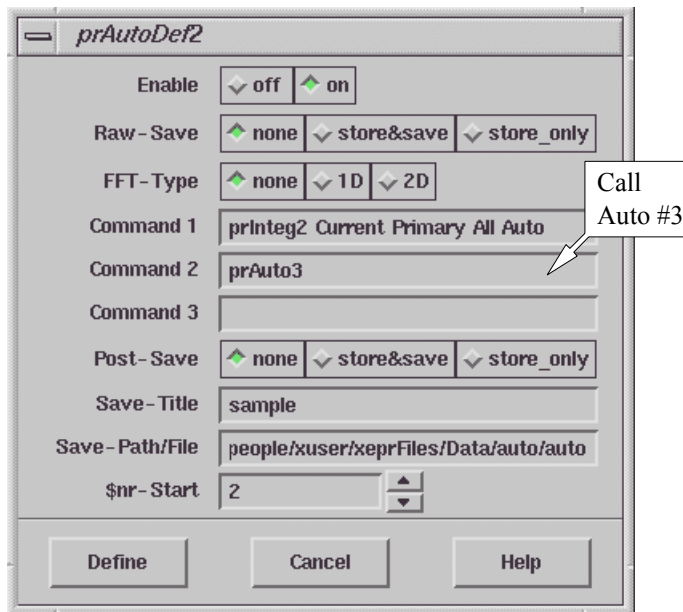

Figure 9-7 Defining the Auto #2 routine.
3. **Define Auto #2.** The dialog box for defining this routine is exactly the same as the previous one. You need to **Enable** this function by clicking the **on** button. In this example, we enter the command for double integrating the **Primary** data in **Command 1** and call the third auto post-processing routine in **Command 2**. (See Figure 9-7.)